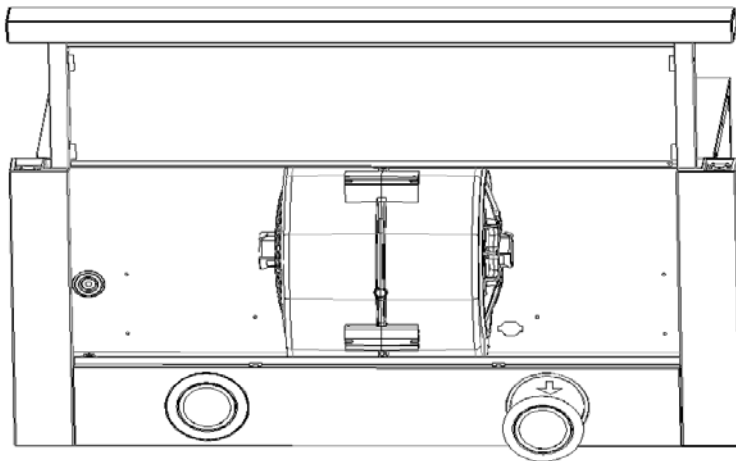

Fig.5
Before proceeding with the assembly operations, remove the anti-grease filter(s) (Fig.5) so that the unit is easier to handle.
- The illumination installation is designed for use during cooking and not for prolonged general illumination of the environment. Prolonged use of the illumination installation notably reduces the duration of the bulb. Use a one-edged screwdriver or any other appropriate tool to lift and remove the overhead light fixture. Replace the damaged lamp. Use only halogen lamps as the original specification, avoiding contact with hands. Return the light fixture to its position . (Fig. 5)